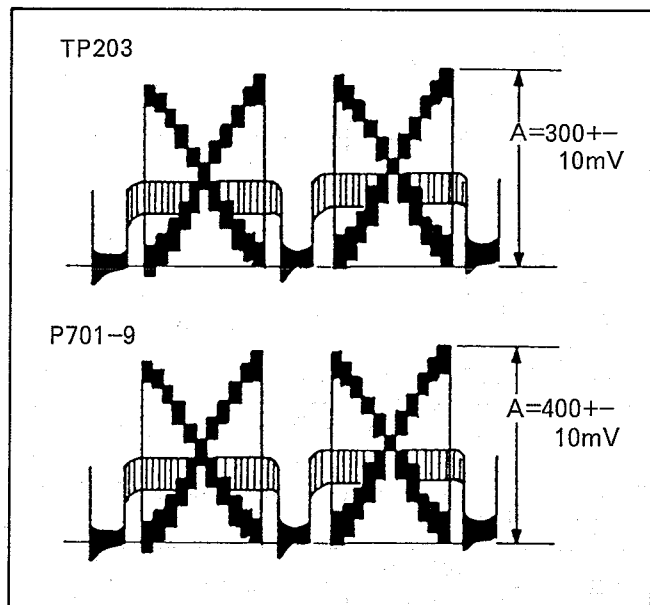

Fig. C26
4. Push "SHIFT1" and "2" or "3" together so that signal level at TP203 becomes 300mV±10mV as shown in Fig.C26.
8. Push "INC" or "DEC" so that signal level at P701-9 becomes 400mV±10mV as shown in Fig. C26.
4. Push "SHIFT1" and "2" or "3" together (or Push IRIS(+) or (-) button on Side Case (R) Unit) so that signal level at TP203 becomes 300mV±10mV as shown in Fig.C26.